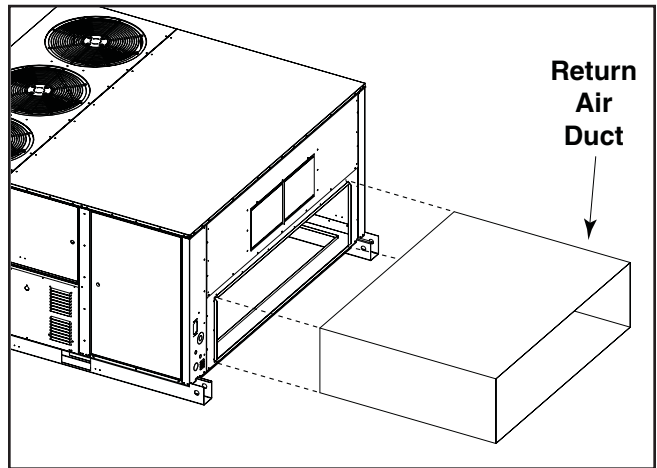

Figure 2.
5. Secure and seal duct to panel and flanges with an approved method for creating water and airtight seals. See Figure 2.